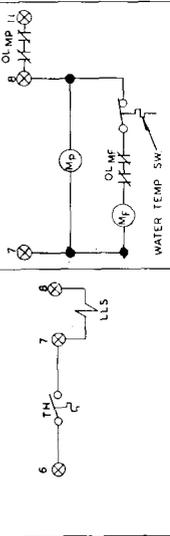

FIG. 1A THERMOSTATIC ON-OFF
1. "VH" UNITS MUST BE WIRED PER THIS DIAGRAM. SELECT ONE OF THE CONTROL CIRCUITS SHOWN (FIG. 1A-4A) REMOVE JUMPERS NOT NEEDED.